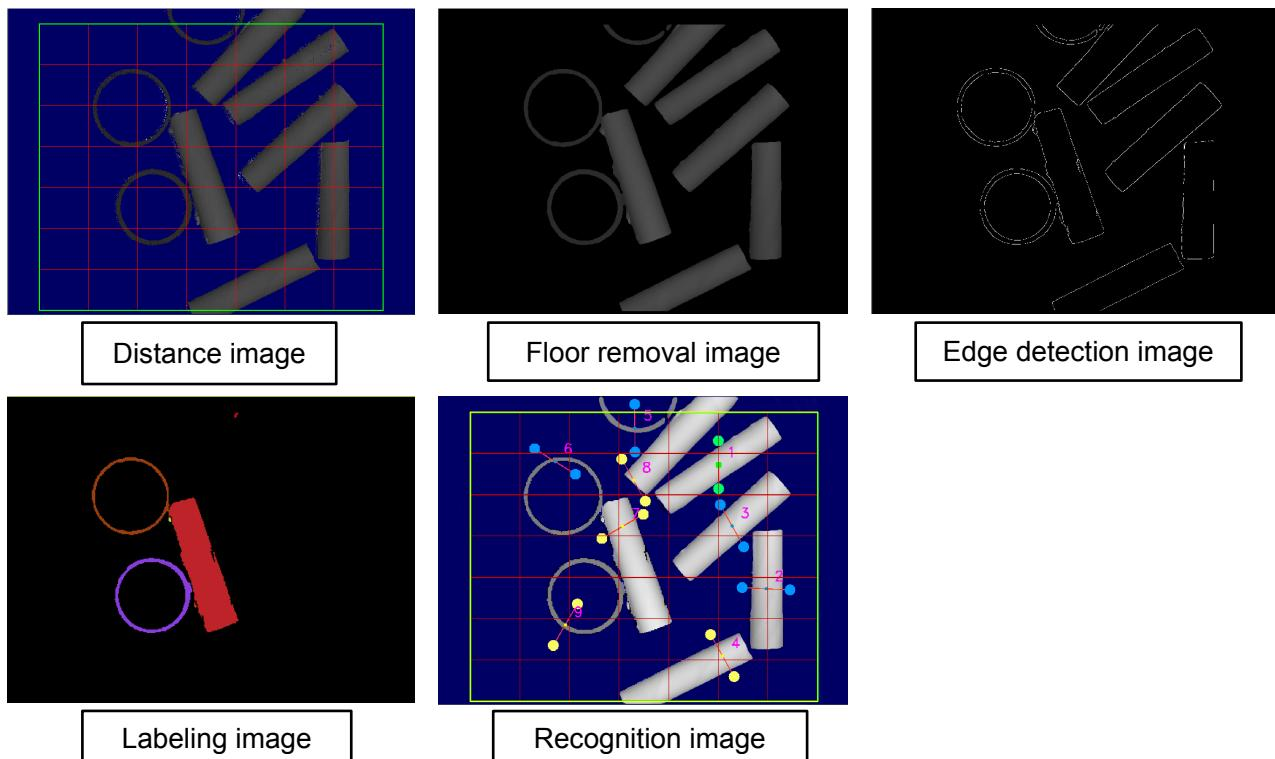

Fig. 7-95 Types of display images
By clicking the [Try Recognition] button, recognition is performed based on the set conditions and the result is displayed in the image on the left. In order to confirm the process until the recognition results (each STEP of the recognition parameters), the displayed images (images during the recognition process) can be changed by selecting the type of image among the images (I): pull-down. The effect of each recognition parameter can be confirmed by the image at each step. Table 7-21 shows a list of each STEP of the recognition parameters and the corresponding images, while Fig. 7-95 illustrates an example of an indication image.